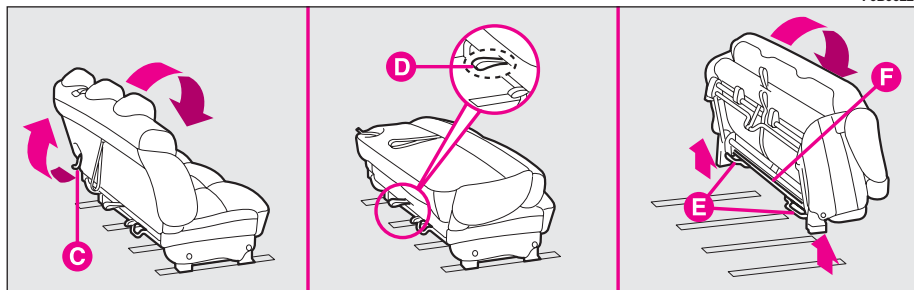

fig. 38
**“Table” position fig. 38**
**“Wallet” position fig. 38**
**Dismantling the bench seat fig. 38**